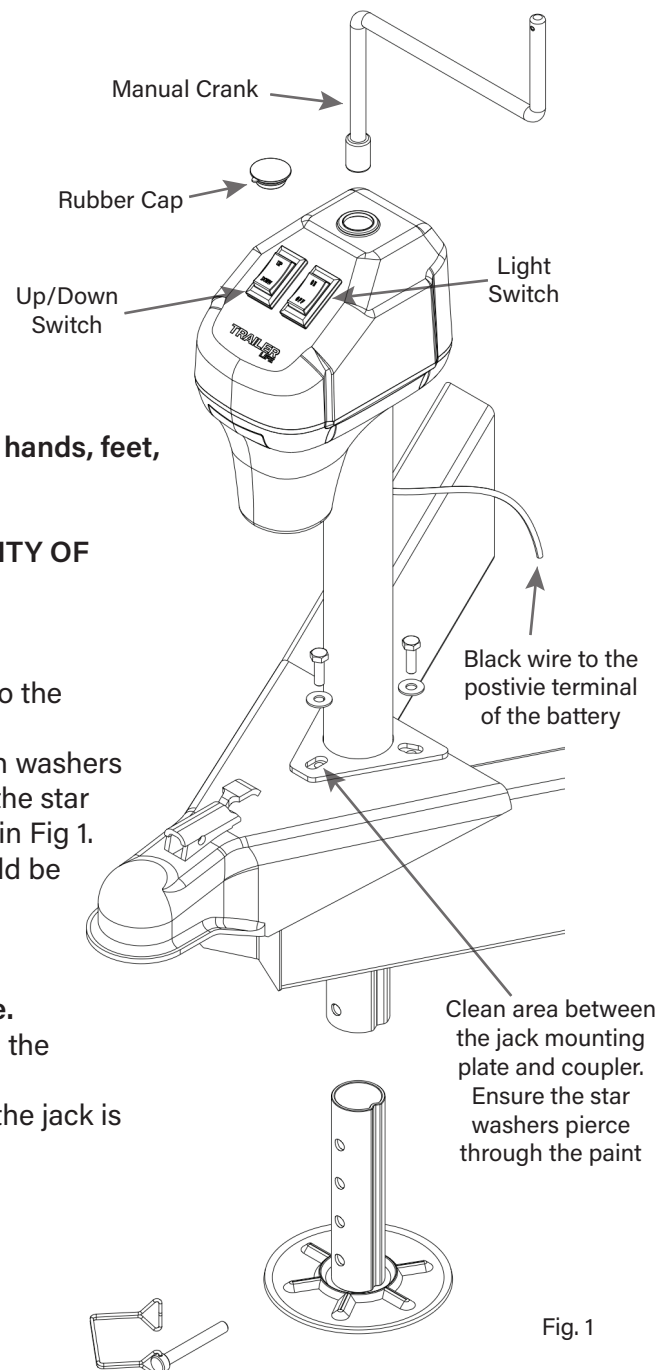

Fig. 1
3. Insert the electric jack into the jack hole, aligning the bolt holes so the motor housing is facing forward as shown in Fig 1.
4. Attach the jack using three bolts (grade 5, 3/8"-16 UNC bolts with washers and nuts or 3/8"-16 self-tapping bolts are recommended). Place the star washers between the flat washers and mounting plate as shown in Fig 1, and ensure the star washer pierces through the paint. Bolts should be tightened to 15-20 ft-lb.